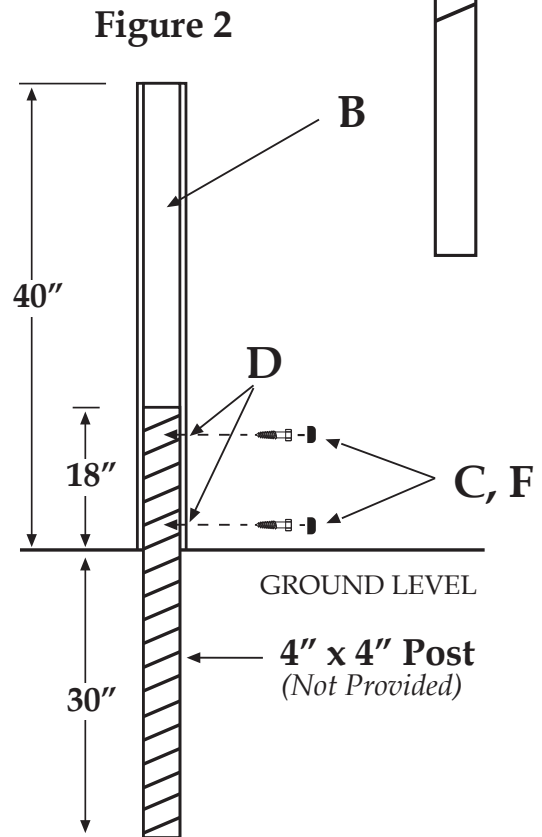
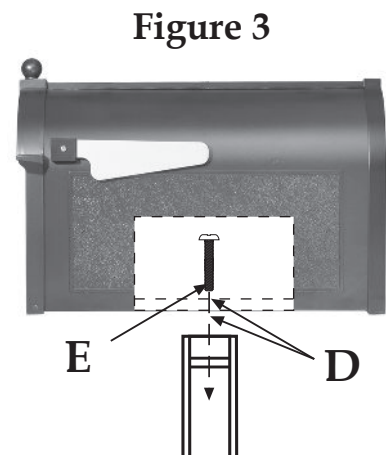

Figure 2
Figure 3
- 3) Place the 4" x 4" post into the hole so that the face of the post is at the marked line (See step 2) leaving at least 18" out of the ground. (See Figure 2)
- 7) Slide aluminum post (B) over the partially buried 4x4 wood post and plastic sleeve with the two bolt holes positioned away from the road and the aluminum post resting on the ground. (See Figure 2)
- 8) Plumb the aluminum post to vertical and use 2 - 1/4" x 2" lag bolts provided (C) to secure aluminum post to treated post.
(See Figure 2 - drilling pilot holes in the wood may be necessary)
- 1) Apply a small amount of Silicon Sealer (D) around the inside and outside of the center mounting hole of your Mailbox. (See Figure 3)
- 3) Reach inside the mailbox and place the 3/8-16 pan head screw (E) in the large center hole in the base plate of the mailbox. (See Figure 3)
3) Place the 4" x 4" post into the hole so that the face of the post is at the marked line (See step 2) leaving at least 18" out of the ground. (See Figure 2)
8) Slide aluminum post (B) over the partially buried 4x4 wood post and plastic sleeve with the two bolt holes positioned away from the road and the aluminum post resting on the ground. (See Figure 2)
9) Plumb the aluminum post to vertical and use 2 - 1/4" x 2" lag bolts provided (C) to secure aluminum post to treated post. (See Figure 2 - drilling pilot holes in the wood may be necessary) **Please Note:** Apply small amount of Silicon Sealer (G) in and around holes before securing the two bolts to the post.
10) Use the plastic lag bolt covers (J) to cover exposed lag bolt once the silicone has dried
11) Apply small amount of Silicon Sealer (G) in and around holes on brackets (D) and attach to deluxe post (B) facing the street using 4 screws (E) and cup washers (H). (See Figure 3) **DO NOT** tighten screws until mailbox is attached. (if a double mailbox mount is being used, the road set back will be recommended postal set back plus 9", 2 sets of bracket are used and brackets are set parallel with the street)
12) Place finial (F) over top of post (B) and, using a rubber mallet, tap finial down firmly on the post.